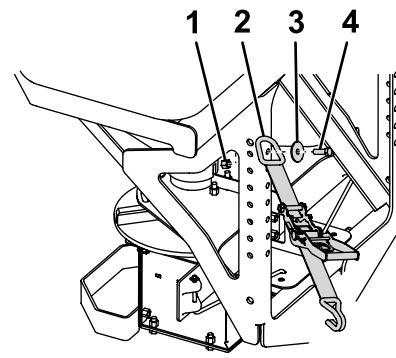

Figure 9
- Attach the D-ring end of the ratchet straps to the upper holes on the outside of the spreader frame using a bolt (1/2 inch), washer (1/2 inch), and locknut (1/2 inch) and torque the bolts to 76 Nm (56 ft-lb) as shown in Figure 9.